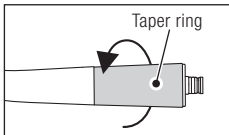

Fig. 42
- ➊ Loosen and remove the taper ring at the rear of the handpiece (Fig. 42).